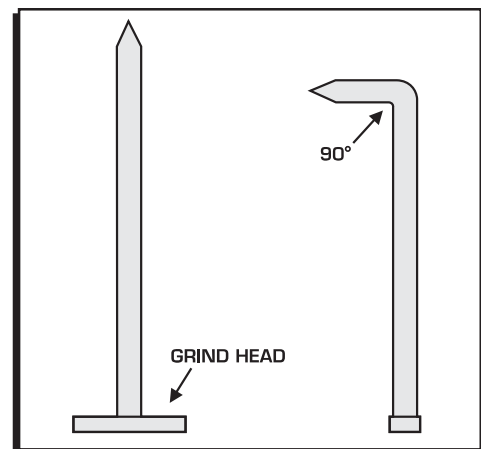

Figure11 Custom Wire Removal Tool.
2. Remove the orange lock plug from the open end of the connector on the coil-pack harness. This plug is firmly locked in place and requires a hook-like tool between the edge of the plug and the body of the plug. Note: It is possible to make a suitable tool from a ten-penny nail. Grind or file the head of the nail away until there is about a 0.100-inch wide hook left then bend the tip over 90° (Figure 11).